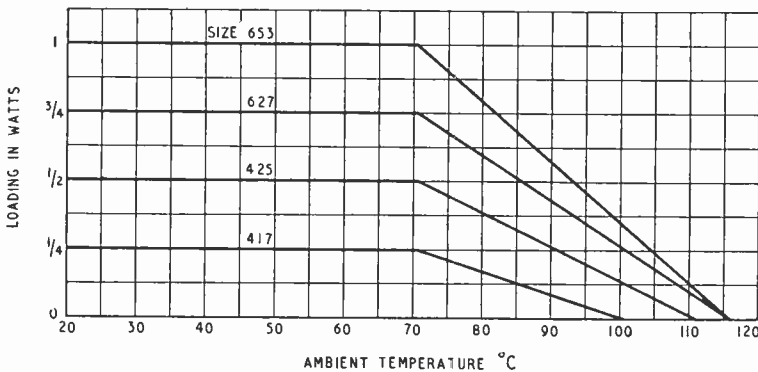

Fig. 5. De-rating curves for high-stability resistors used in Service equipment.
4 and 5 are given, these relating to the different conditions of use. Under conditions (1), Fig. 4 shows that up to 30° - 45° C, depending upon size, these resistors are capable of carrying constant specific loads from 1/4 to 2 watt. Above, the permissible load falls linearly with temperature to zero at approximately 100°-115° C. Thus to ensure high stability and long life the size for a 3/4-watt load will have to be increased three times if the ambient temperature is raised from 50° C to 75° C. Fig. 5, which relates to Service use, is similar but shows a common maximum limiting ambient temperature of 71° C for constant maximum loading, above which all sizes are derated linearly to zero loading at 100°-115° C. Not unnaturally the constant loads are not in all cases the same for conditions (1) and (2) while a penalty has to be paid for the severer demands of the latter, this penalty taking the form of a